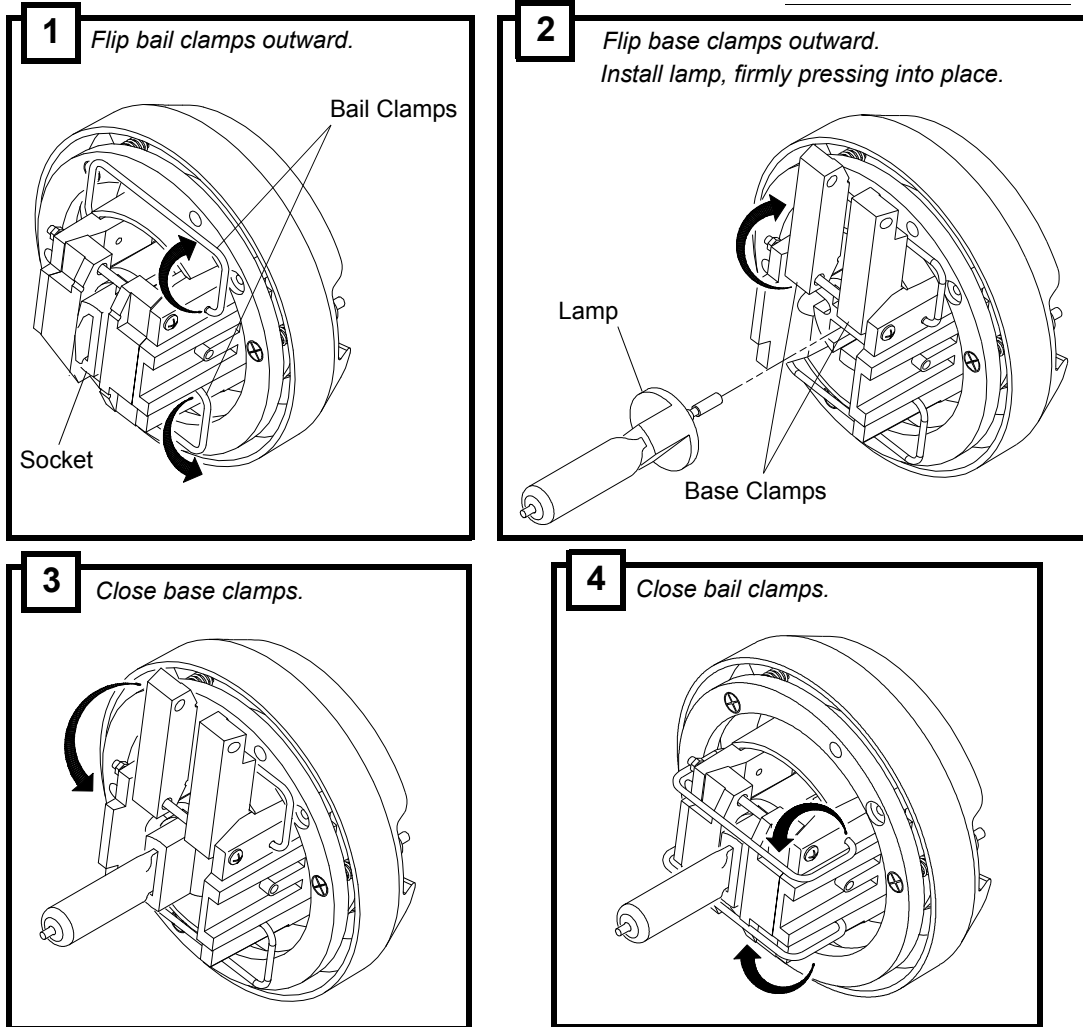

Figure 2-2: Installing Incandescent Lamp in Socket
- Step 4. At backcap, flip two bail clamps outward (Figure 2-2).